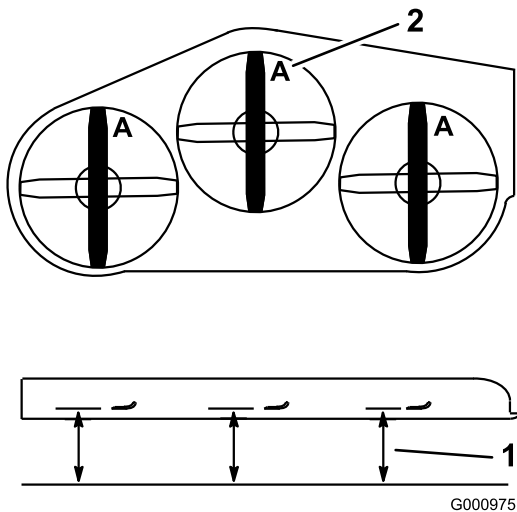

Figure 90
3. Rotate the blades until the ends face forward and backward (Figure 90). Measure from a level surface to the cutting edge, position **A**, of the blades (Figure 90). Note this dimension.